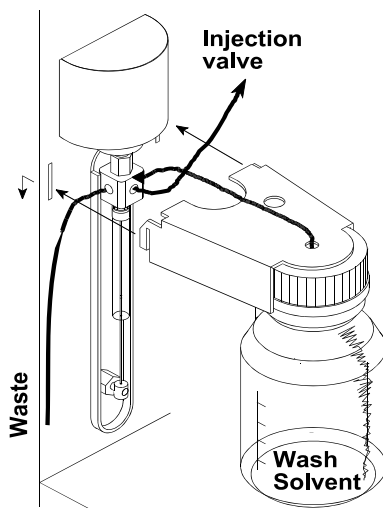

Figure 4 Wash Solvent Bottle
3. Place the holder in the ProStar 430 as indicated in Figure 4.